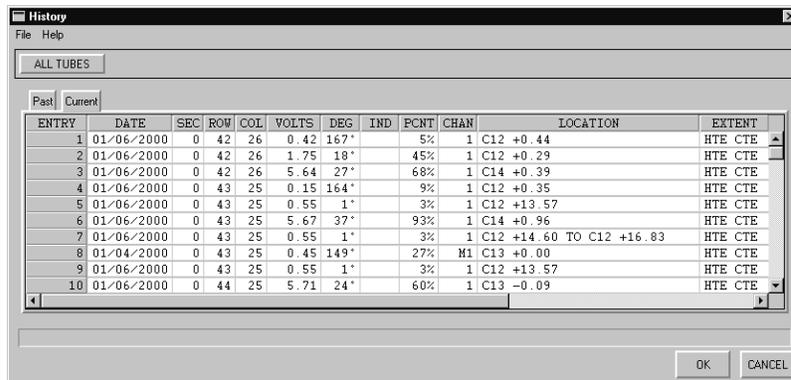

Figure 3-81. History Dialog with Current History Loaded
- HISTORY > File > Load Current ...:** Selecting **Load Current ...** from the **File** menu on the **History** dialog shown in Figure 3-79 displays an **Open** dialog. Select the drive, directory, and *current* history (.cur) file for the format selected in the **Options** dialog (see **OPTIONS > History**). Figure 3-81 shows the **History** dialog after loading a CoreStar-format *current* history file. The current history is typically used when analyzing additional eddy current data for retests during the current job activity. It assists the analyst in knowing where to look for the indication(s) called during previous analysis of the tube.